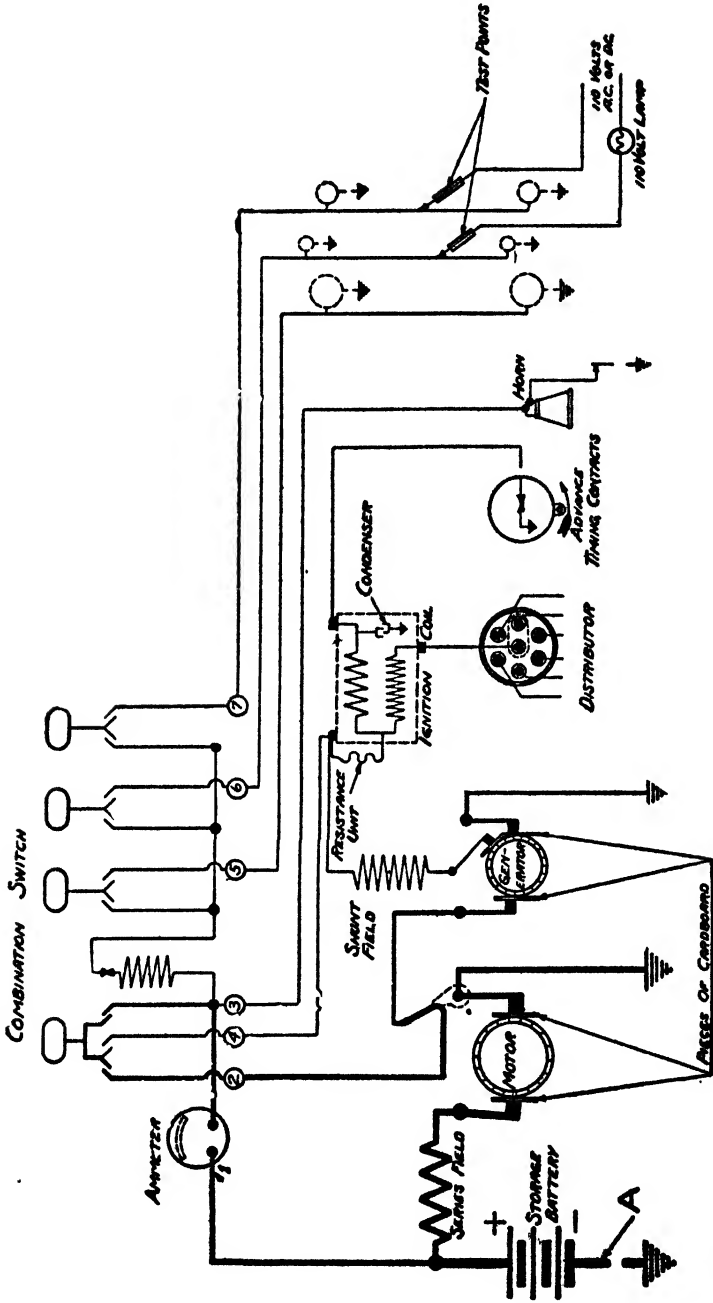

Fig 49. Wiring Diagram Showing Method of Using Lamp-Testing Set for Locating Short-Circuits
**Locating Shorts.** To test for short-circuits between wires that are normally insulated from each other, place one test point on the end of one wire and the second test point on the end of the other, as shown in Fig. 49. If the lamp lights, it will indicate a short-circuit